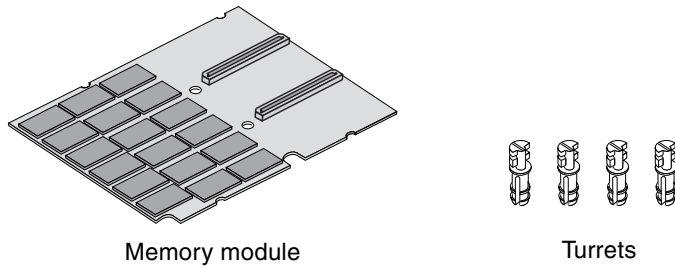

FIGURE 5 Hardware Contents of Double-wide Memory Module Kit
To obtain two memory modules, you need to order two memory module kits. Each memory module kit contains the following hardware (see FIGURE 5 and “Double-Wide Memory Module Identification and Sizes” on page 12):
- **XCP2000-MEM-1GB (1GB memory module - 5 in. x 4 in.) part no. 595-5947-xx** -- this kit contains the components shown in FIGURE 5 and some additional documentation. They can each be identified by their part numbers as follows:
- **XCP2000-MEM-2GB (2GB memory module - 5 in. x 4 in.) part no. 595-6711-xx** -- this kit contains the components shown in FIGURE 5 and some additional documentation. They can each be identified by their part numbers as follows: